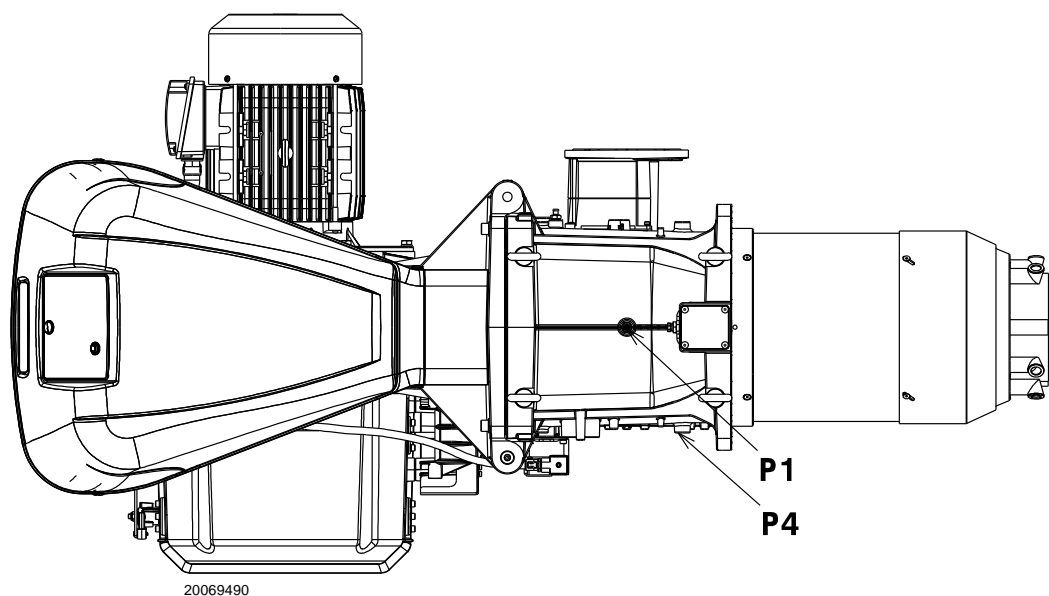

Fig. 26
Gas pressure measured at the test point P1)(Fig. 26), with:
- subtract the combustion chamber pressure from the gas pressure measured at test point P1)(Fig. 26).
Gas pressure at test point P1)(Fig. 26) = 58.1 mbar
To calculate the required gas pressure at test point P1)(Fig. 26), set the MAX output required from the burner operation:
- read, on the right (column 1), the pressure at the test point P1)(Fig. 26).
Pressure required at test point P1)(Fig. 26).